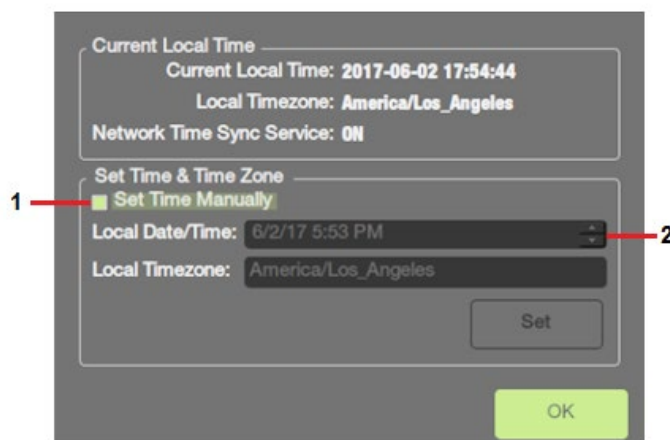

Figure 31: The Clock Set Dialog
1. Click on the **Local Timezone** drop-down and select the location you want. Figure 31. The *Local Date/Time* field changes to the date and time for the location you selected.